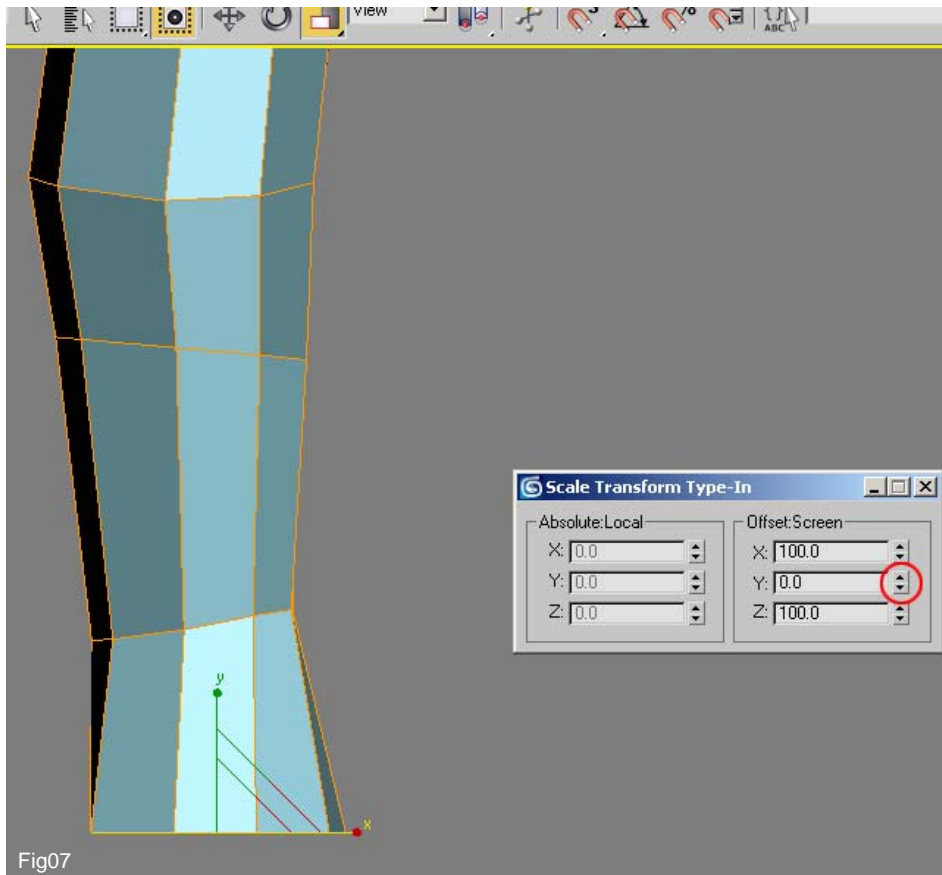

Fig07
7. We now need to level these poly's so in a profile view (left or right) select them and then right click the "Select and Non-uniform Scale" tab on the toolbar. This brings up a dialogue box as shown in Fig07. Right click on the bottom arrow in the Y axis (highlighted in red) and the poly's should all align nicely.